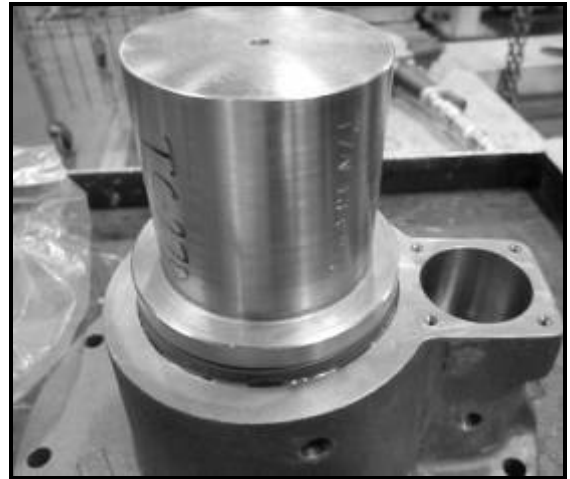

Figure 63
12. Use Loctite 620 or equal on the outer diameter of the oil seal and press it into the carrier. See **Figure 63**.